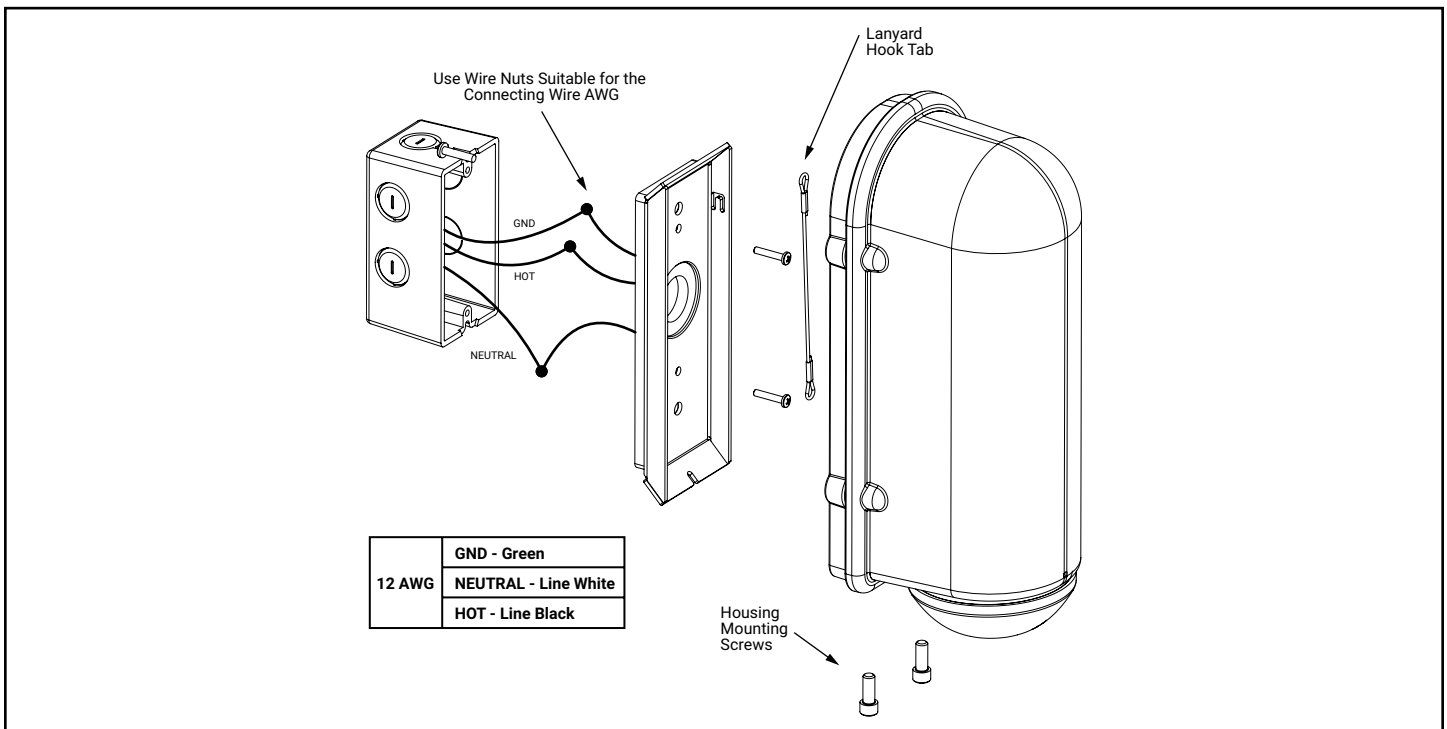

Figure 6 Wireless Extender (WE)
- Wireless Extender (Figure 6) or Control Multiplier (Figure 7)